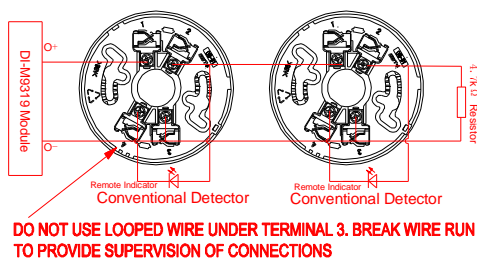

Fig. 3
**Wiring:** Anode and cathode of the power output of DI-M9319 module should be connected with terminals "1" and "3" of the base respective, polarity-sensitive; Terminal "2" to anode of remote indicator and "4" to the cathode. System connection is shown in Fig 3.